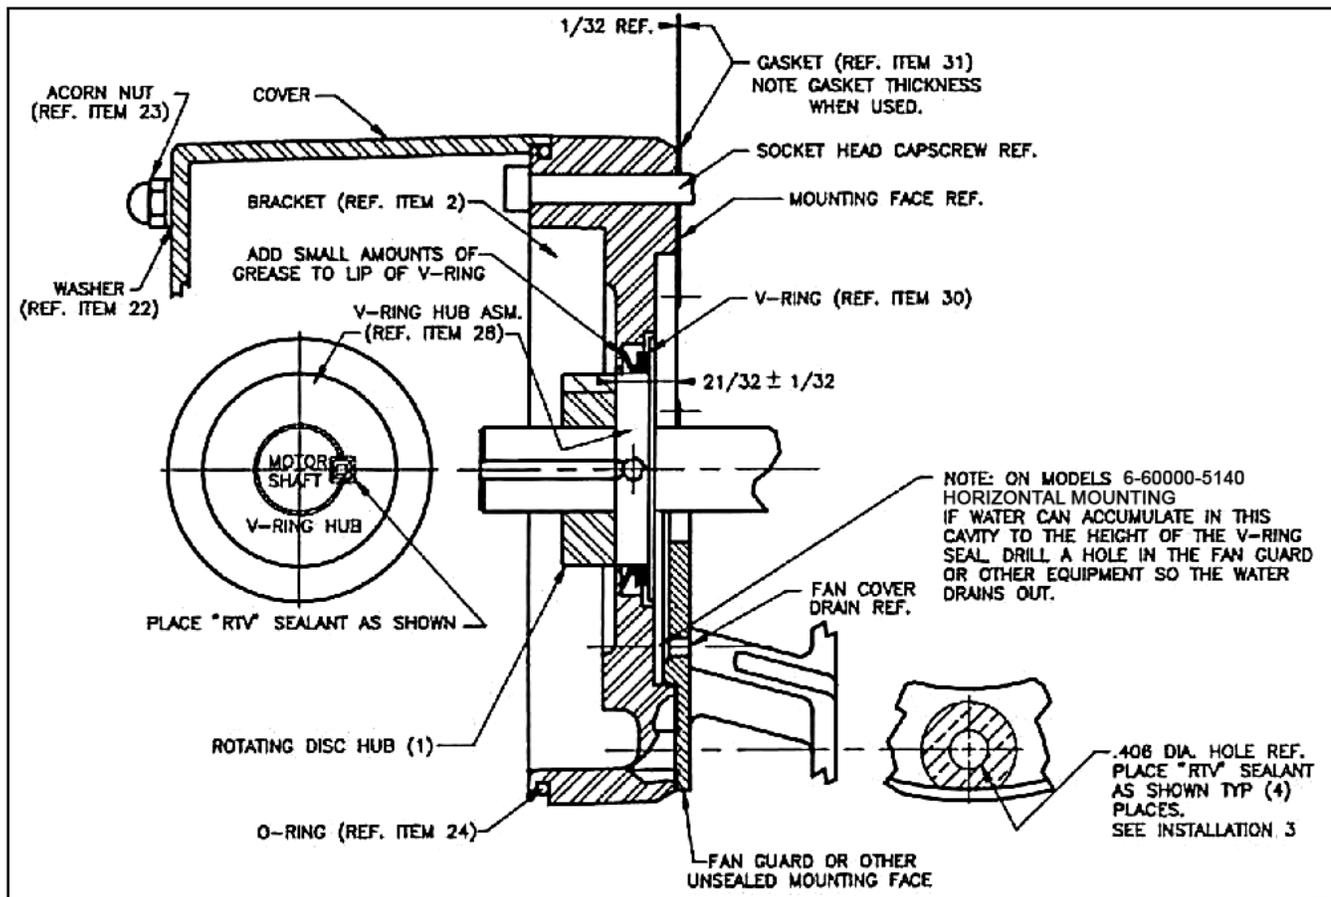

Figure 2
Numbers in parentheses refer to parts illustrated in Figs. 2, 4 and 10.
1. Place rotating disc hub (1), with key, onto motor shaft with part number facing away from motor to dimension shown in Fig. 2 ($2\frac{1}{32} \pm \frac{1}{32}$). Measure from brake mounting face as shown.
1. Remove V-ring (30) from V-ring hub assembly (28).
2. Place V-ring hub assembly (28) onto motor shaft with part number facing away from motor to dimension shown in Fig. 2 ($2\frac{1}{32} \pm \frac{1}{32}$).
4. Replace V-ring (30) onto V-ring hub assembly as shown in Fig. 2. Apply a small amount of grease to lip of V-ring.
5. Place rotating disc hub (1) with key if not already in place, onto motor shaft with part number facing away from motor to dimension shown in Fig. 2 ($2\frac{1}{32} \pm \frac{1}{32}$). Rotating disc hub will butt against the V-ring hub as shown.
1. Remove acorn nuts (23), washers (22), and cover (20). Place brake on motor mounting face aligning hub splines into brake disc splines. Make sure gasket (31) is in place. Drain plug (25) to face down on horizontal models.
NOTE: for models 6-60000-5140 only: If gasket (31) does not make contact around mounting face totally (360°), exclude gasket (31) and place RTV sealant around mounting bolt holes to approximately 1" dia. as shown in Fig. 2. Use Dow Corning #739 RTV only; other types may form acetic acid during curing if subjected to water or high humidity. This will cause premature failure of zinc plated parts.
You may have to add drain in fan guard or other equipment as shown in Fig. 2.